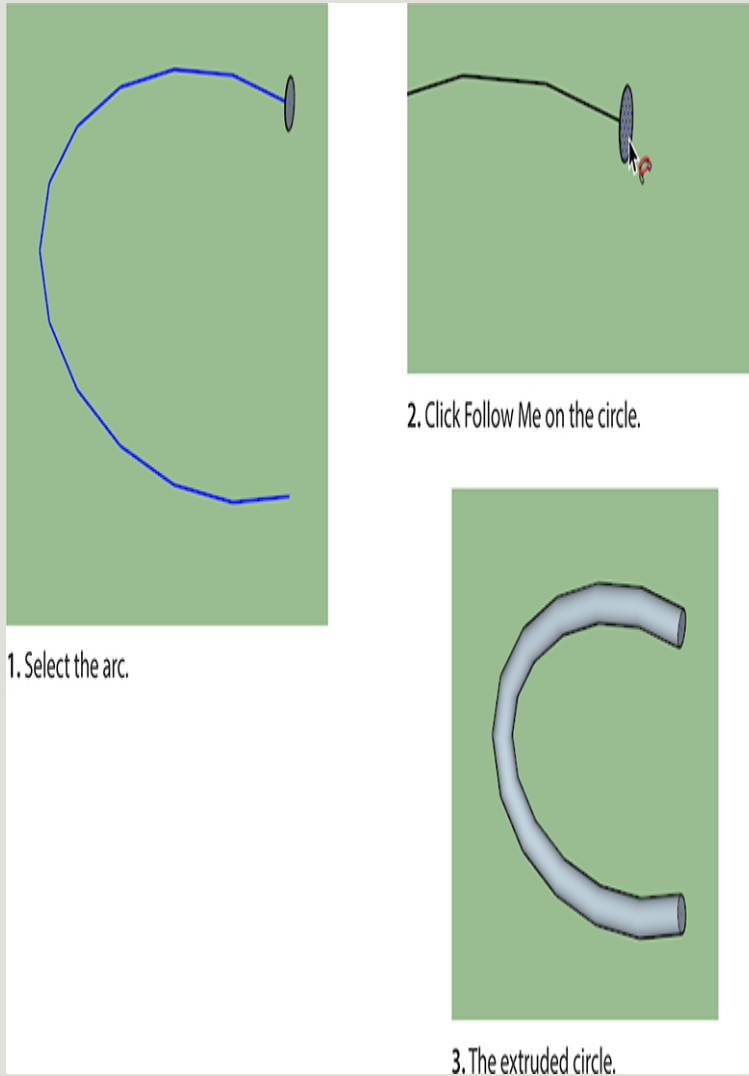

Figure 3-86 Extrude the circle along the arc.
- f. Delete the cube. Then select the arc, activate Follow Me, and click on the circle to extrude it along the arc (Figure 3-86).